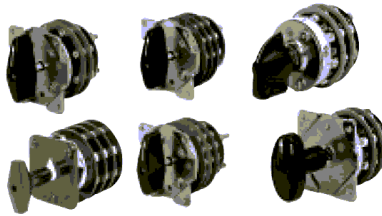

Fig.14 An overview of typical detent-action switches.
A typical detent action rotary switch is shown in Fig14, while Fig.15 shows a cut away view exposing its basic components. A mounting plate (1) connects a detent assembly (2) to one or more contact decks (3) and finally a position limiting stop plate (4). These assemblies are bolted together along with a steel shaft (5) and a handle (6). The detent assembly contains a star wheel and up to four spring-loaded ball bearings providing snappy positive indexing. Spring return switches use a coil spring in place of the star wheel/spring/ball bearing arrangement.